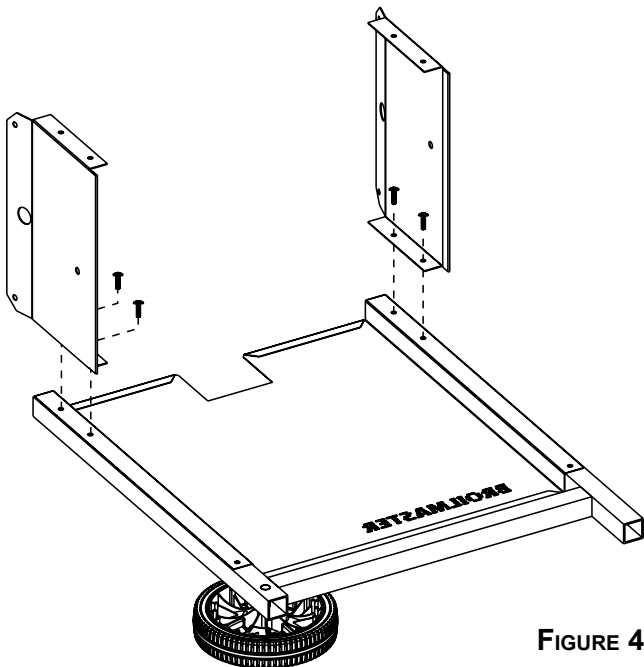

FIGURE 4
Place two (2) head brackets onto frame assembly. Attach each head bracket to frame assembly with two (2) 1/4-20 x 3/4 Phillips screws. Figure 4